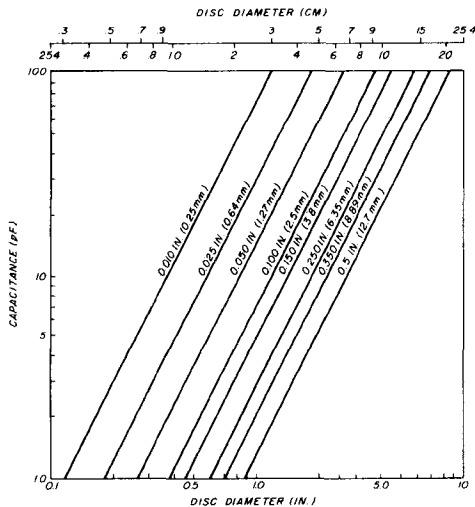

fig. 6. Capacitance as a function of parallel-plate disc diameter with spacing as a parameter.
**Tuning capacitor.** Construction of the tuning capacitor can be simplified by using parallel plate discs. Fig. 6 shows capacitance versus diameter for parallel-plate capacitors with various spacings between discs. In some cases a dielectric can be used, so the capacitance value is then multiplied by the dielectric constant. The basic equation is: